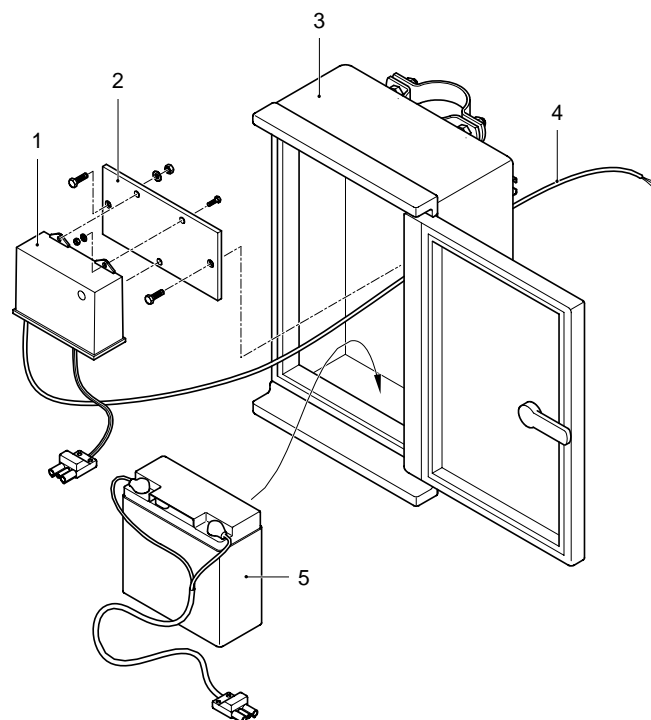

Figure 7-2 Installing the battery charger and battery in the battery box
- (1) Bolt on the battery charger (Figure 7-2 Item 1) with the mounting plate (Figure 7-2 Item 2) of the charger mounting kit.
- (3) Screw the battery charger with the mounting plate to the back of the battery box (Figure 7-2 Item 3).
- (4) Remove the mains plug from the mains cable (Figure 7-2 Item 4) of the battery charger and lay it in the back of the battery box with the cable holders.
- (5) In order to prevent damage in transit, do not put the battery (Figure 7-2 Item 5) into the battery box until it is in its installation location.
- (6) lock the battery box.